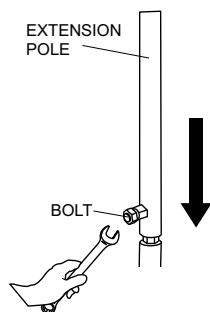

Figure 6. Extension Pole Attachment
4. If desired, attach an optional extension pole to the top of the mast as shown in Figure 6.